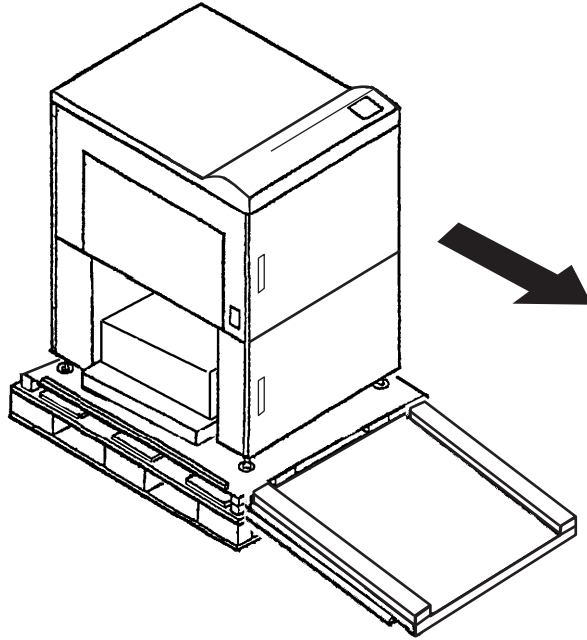

Figure 2-5
5. Utilizing four or more people, carefully move the printer down the ramp to the floor as shown in Figure 2-5.